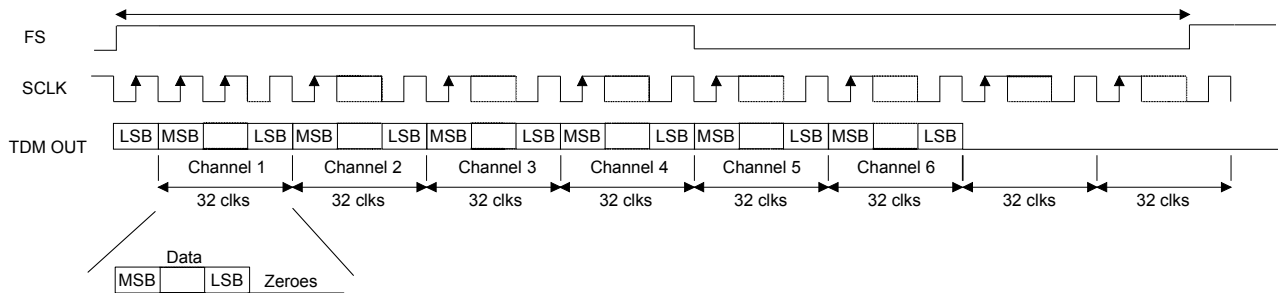

Figure 12. TDM Format
In TDM Mode, all six channels of audio data are serially clocked out during a single Frame Sync (FS) cycle, as shown in Figure 12. The rising edge of FS signifies the start of a new TDM frame cycle. Each channel slot occupies 32 SCLK cycles, with the data left justified and with MSB first. TDM output data should be latched on the rising edge of SCLK within time specified under "Serial Audio Interface - TDM Timing" section on page 16. The TDM data output port resides on the SDOUT1 pin. The TDM output pin is complimentary TDM data. All SDOUT pins will remain active during TDM Mode. Refer to Section 4.11 "Optimizing Performance in TDM Mode" on page 29 for critical system design information.